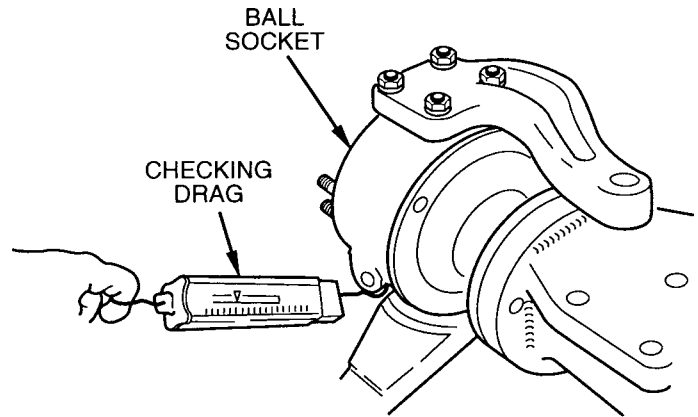

Figure 22 Checking Ball Socket Drag
16. Check the axle socket bearing preload. Approximately 38-42 lb. ft. (52-57 N•m) is required to keep the socket moving after it is started. (See Figure 22).
18. Remove grease fitting from the lower tie rod arm. Reinstall pipe plug (22).